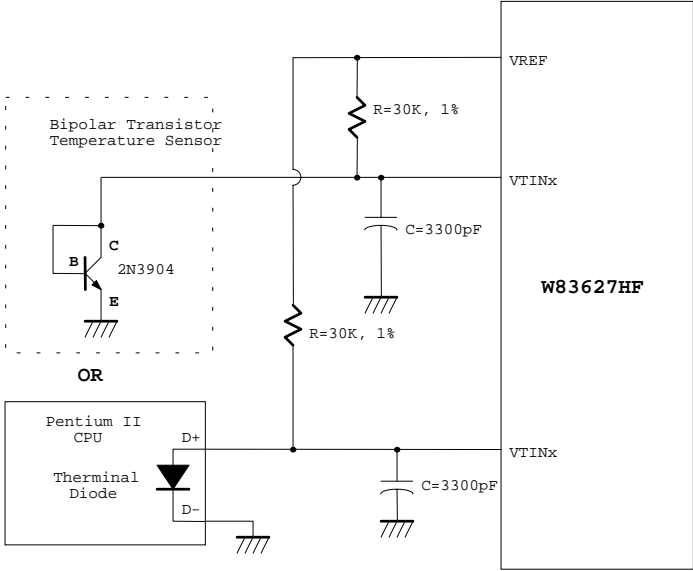

Figure 2.3
The W83697HF can alternate the thermistor to Pentium II™ (Deschutes) thermal diode interface or transistor 2N3904 and the circuit connection is shown as Figure 2.3. The pin of Pentium II™ D- is connected to power supply ground (GND) and the pin D+ is connected to pin VTINx in the W83697HF. The resistor R=30K ohms should be connected to VREF to supply the diode bias current and the bypass capacitor C=3300pF should be added to filter the high frequency noise. The transistor 2N3904 should be connected to a form with a diode, that is, the Base (B) and Collector (C) in the 2N3904 should be tied together to act as a thermal diode.